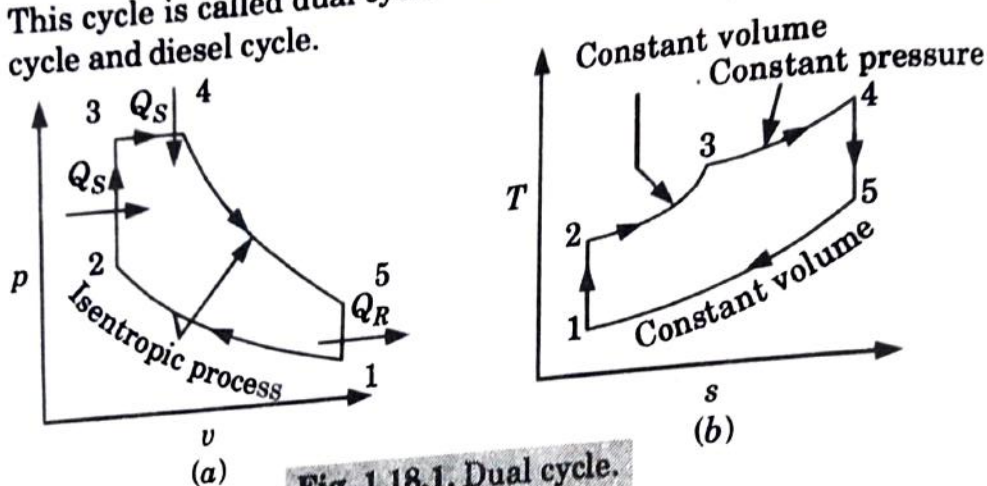

Fig. 1.18.1. Dual cycle.
1. Dual cycle is most suitable for high speed engine. Some part of heat addition takes place at constant volume (2-3) and rest of the part takes place at constant pressure (3-4) as shown in Fig. 1.18.1(a).